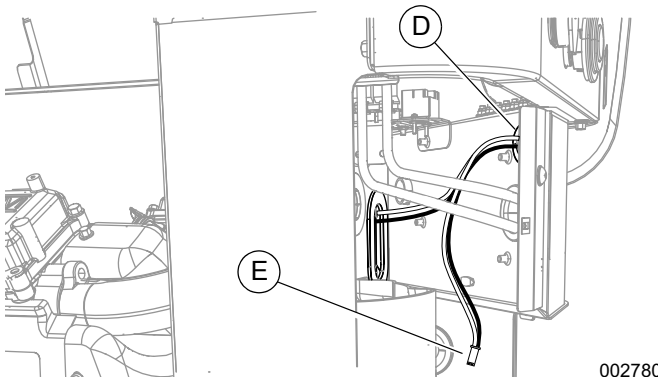

Figure 8. Lead Wires to Customer Connection (11-22kW)
- See **Figure 8**. Pass the lead wires through the customer connection panel grommet (D). If the empty Y-harness socket (E) will not be connected to a battery heater, coil the wires and secure with a plastic wire tie. Secure all wires with plastic wire ties at least 0.5 in. (1 cm) away from fuel hoses.